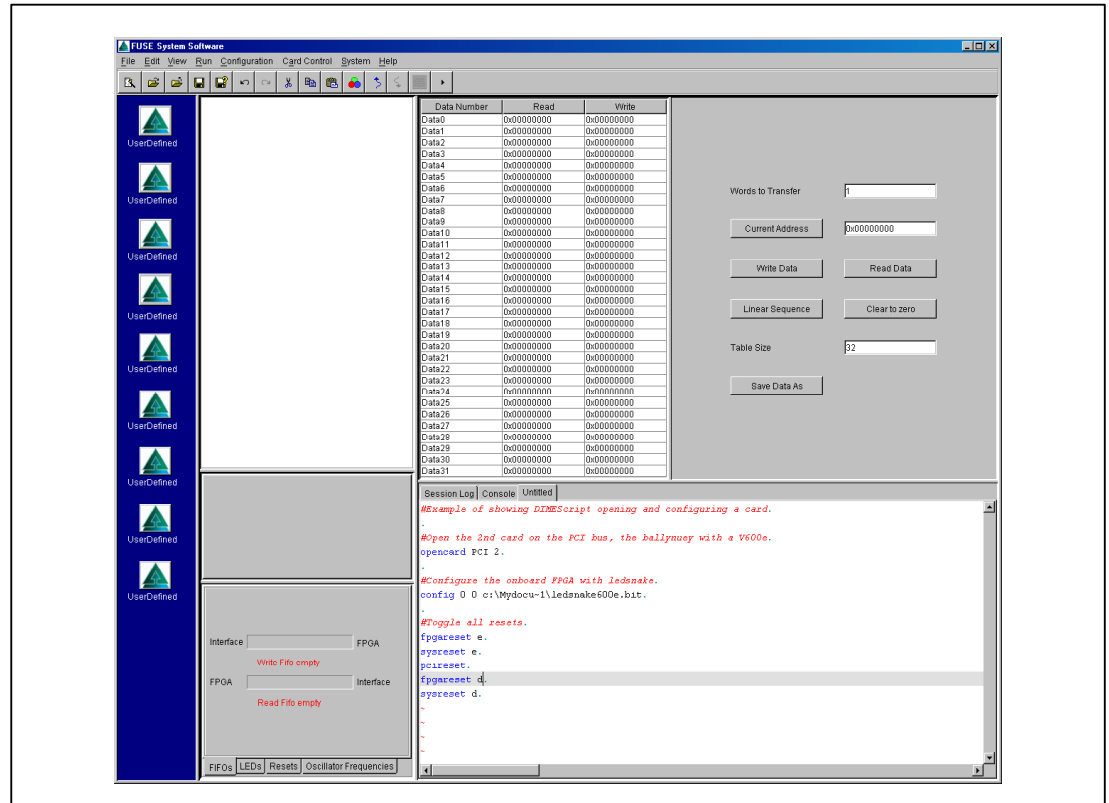

Figure 13: New DIMEScript editor
1. Click on the **File** menu and select **New** to bring up a new blank DIMEScript file as shown in Figure 13: